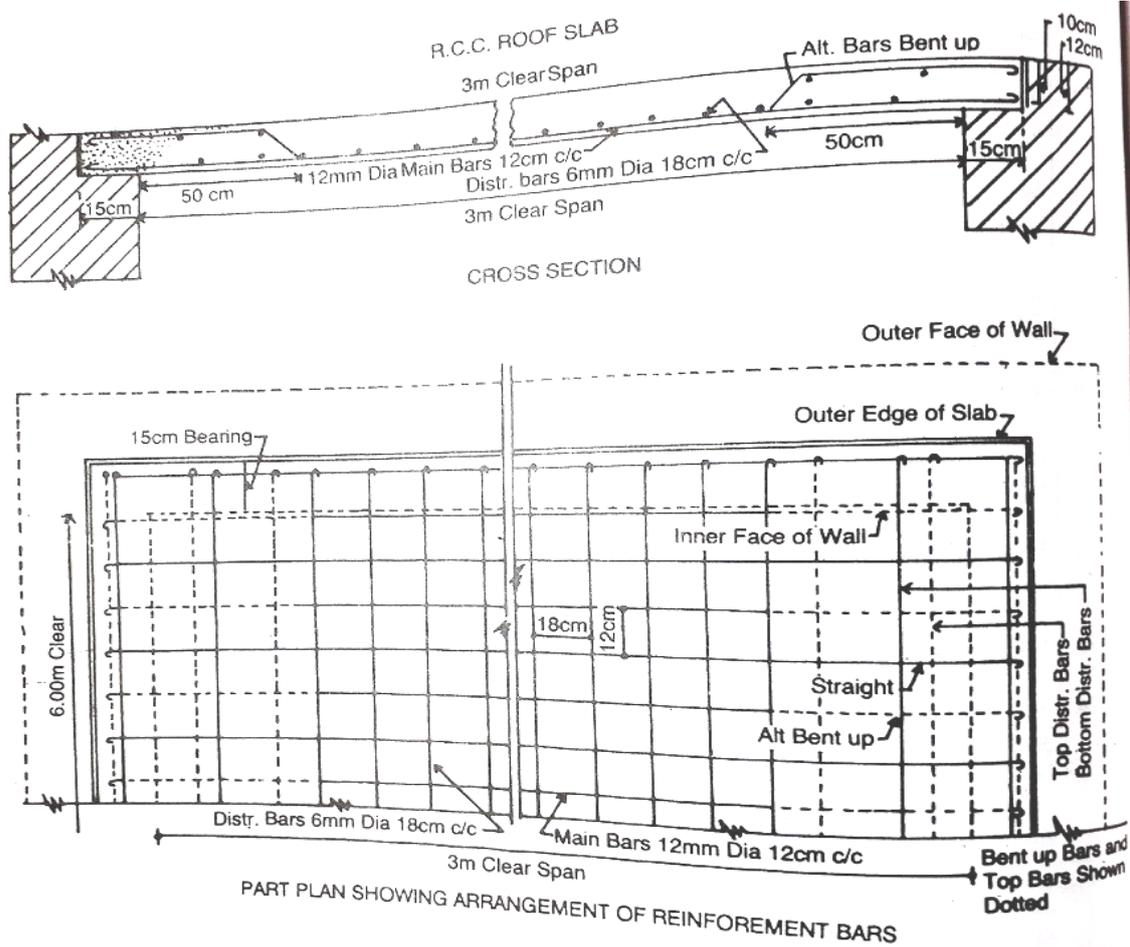

Fig. 3.
7. Prepare a detailed estimate of R.C.C. Roof Slab given in Fig. 3. 14M